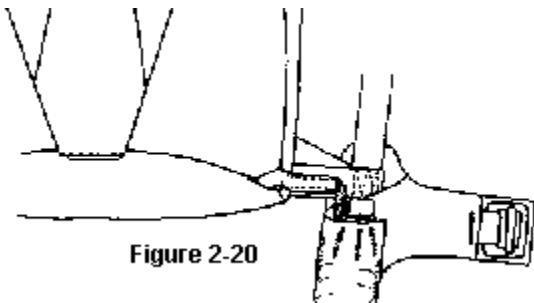

Figure 2-20
**Step 25** Fold pilot chute in half about its center and role TIGHTLY. Insert into the leg pouch as shown in *Figure 2-20*.